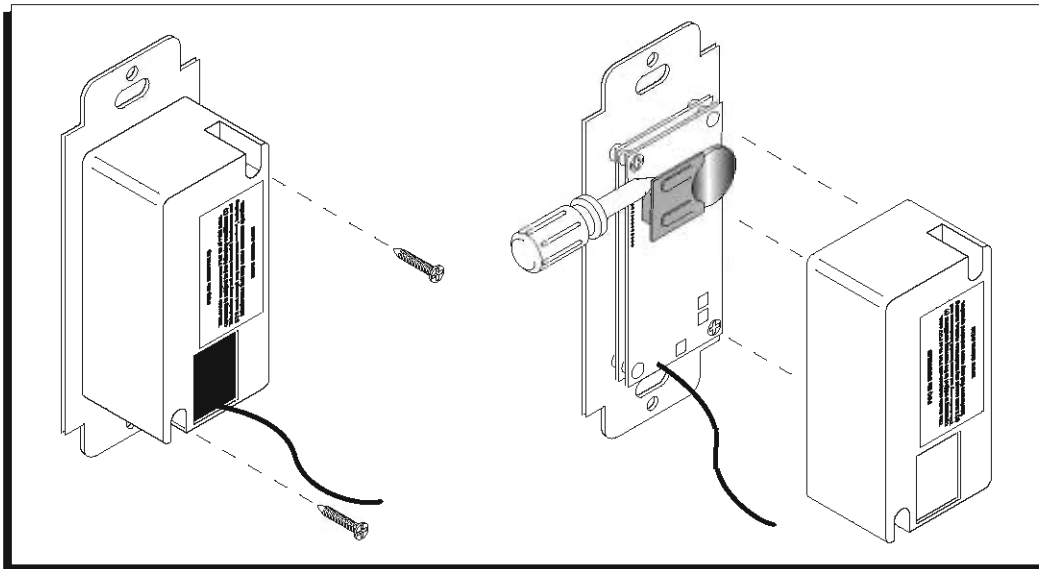

FIGURE 3
- 4) Carefully remove back plate by lifting directly away from front plate (See Figure 3).